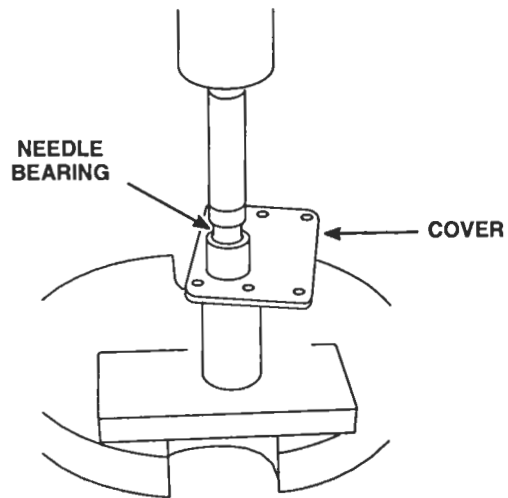

Figure 7. Install Needle Bearings in Governor Cover
7. Support the operating shaft and lever on the bed of the press (Figure 7 in Section 2.7.1). Press the shaft from the operating lever and bearing with a brass rod.
If the needle bearings were removed from the governor cover, place the governor cover on the bed of an arbor press with the inner face of the cover down. Start the upper bearing straight into the bearing bore of the cover with the number on the bearing up. Insert bearing installer J 21068 in the bearing and press the bearing in until the shoulder on the tool contacts the cover (Figure 7.)